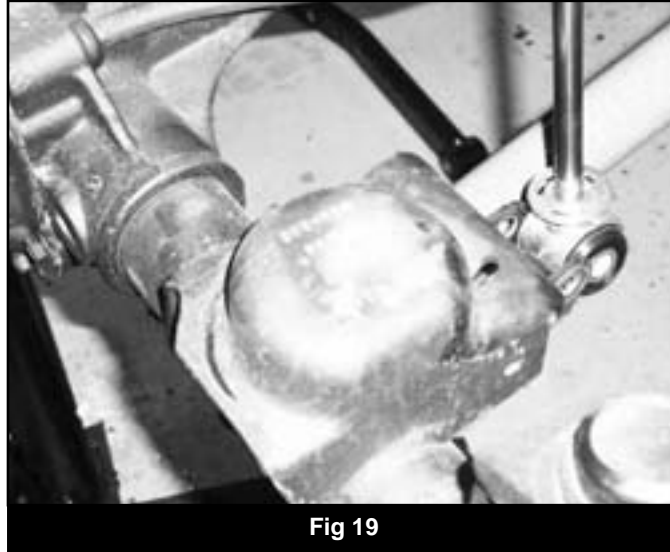

Fig 19
49. Locate and mark the center of the coil spring mount on the axle (Fig 19). Drill a 5/16" hole at the mark. Using a provided 3/8" x 1" self-tapping bolt (BP 438) cut threads in the hole and then remove the bolt. This hole will be used to attach the provided bump stop extension to the axle.